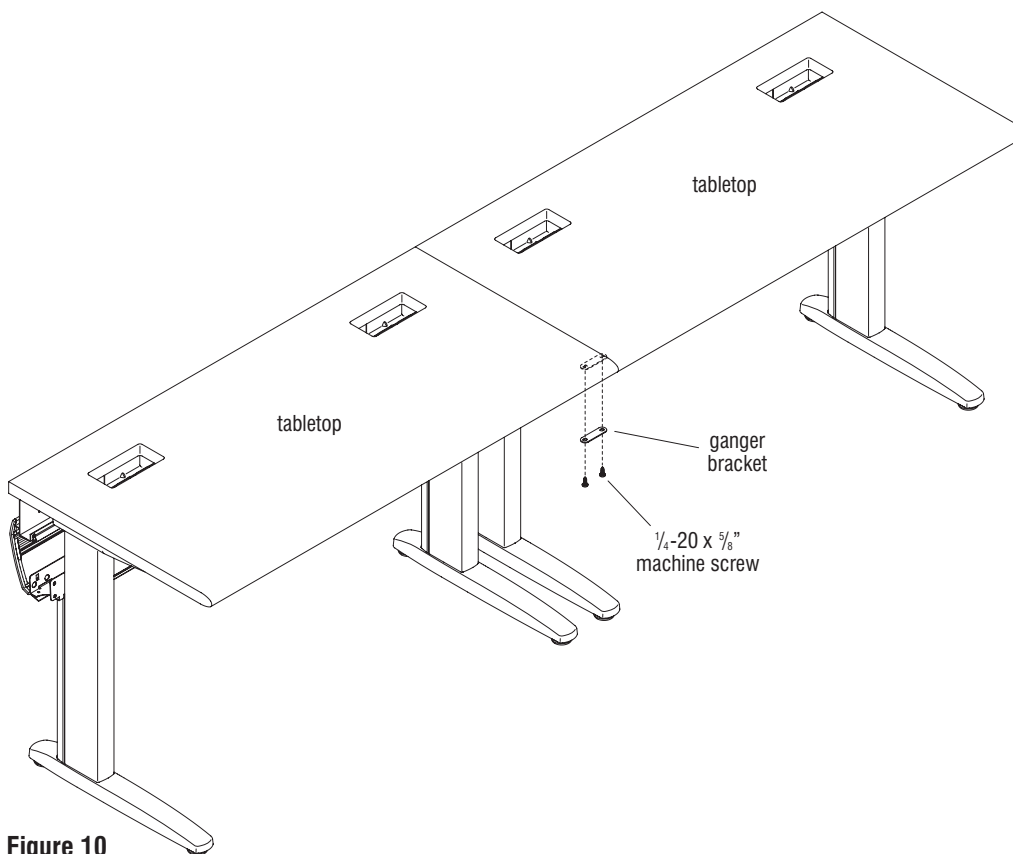

Figure 10
1. Move two stand-alone tables together to be ganged (Figure 10).
2. Align the mounting holes of the ganger bracket with the front user side mounting holes on the underside of the two tabletops being ganged and secure using two $\frac{1}{4}$ -20 x $\frac{5}{8}$ " machine screws (Figure 10).